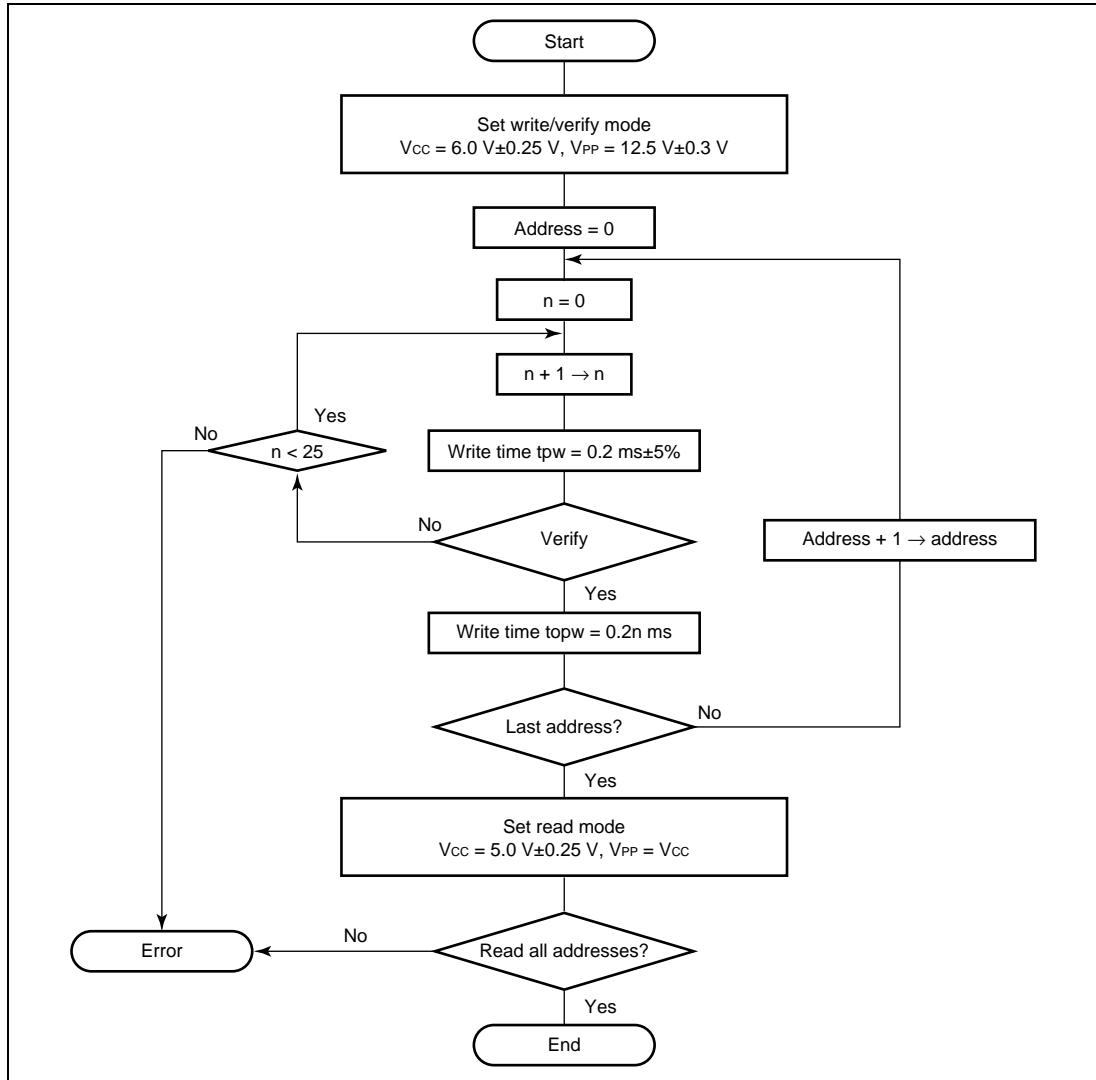

Figure 6.4 High-Speed, High-Reliability Programming Flowchart
The basic flow of this high-speed, high-reliability programming method is shown in figure 6.4.
- t_{OPW} is defined by the value given in figure 6.4, High-Speed, High-Reliability Programming Flow Chart.
Note: * t_{OPW} is defined by the value shown in figure 6.4, High-Speed, High-Reliability Programming Flowchart.